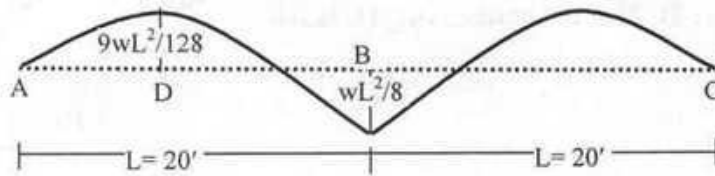

Fig. 2
6. Use the BMD of a two span continuous beam (Fig.2) to
7. Use WSD to design (with neat sketches) rectangular section ( $b=12''$ ,  $h=24''$ ) at D if  $w=5$  k/ft is applied on the beam shown in Fig.2 of Question 6.